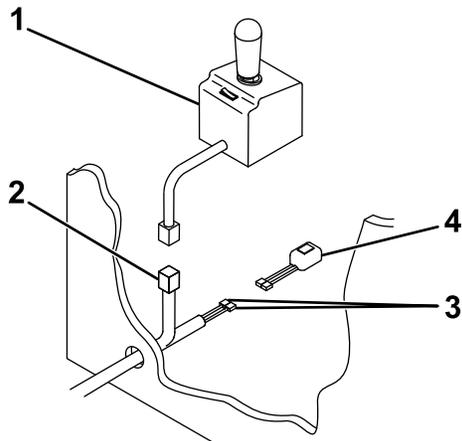

Figure 2
5. Pull the plow controller connector, the black wire, and the black/red wire into the vehicle cab through the existing hole (with grommet) on the in the firewall (Figure 2).
6. Connect the black and black/red wires to the headlight toggle switch (Figure 2).